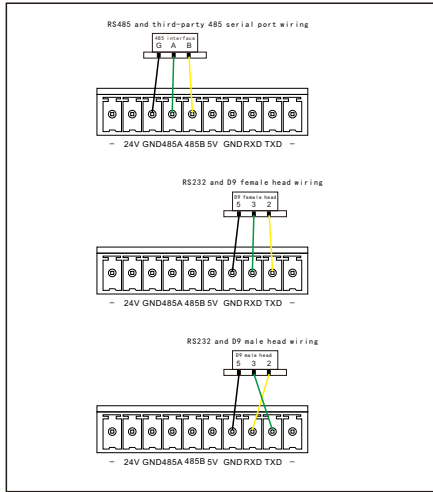

Figure 7. Serial port wiring
Product Wiring: See Figure 7 and 8
2. Port wiring: : 24V ,5V are output voltages (see Figure 7)